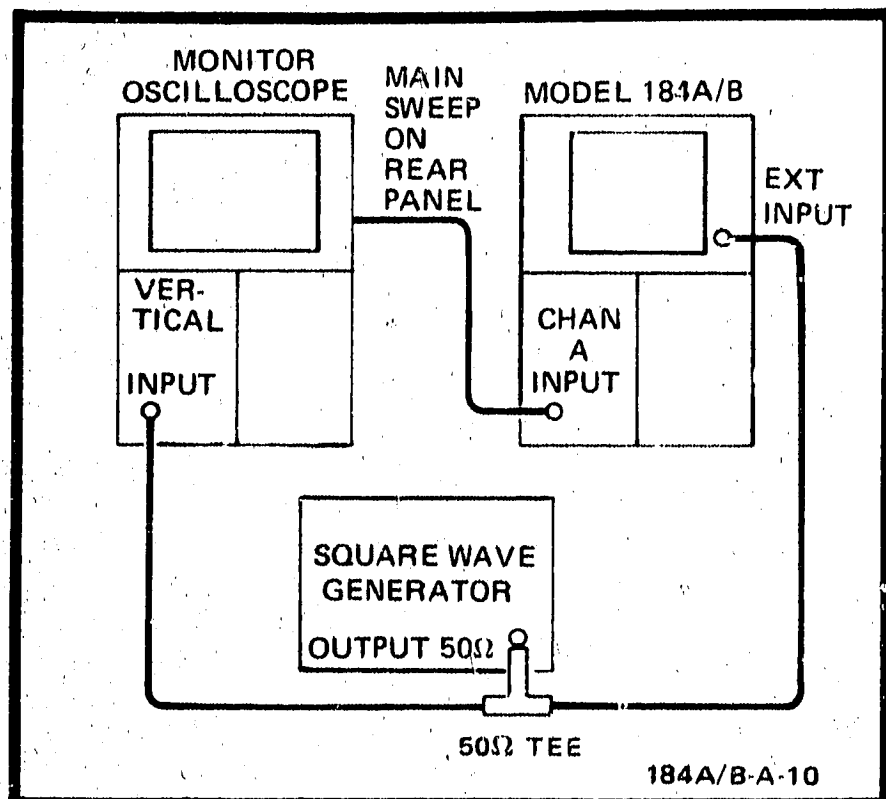

Figure 5-13. Transient Response Adjustment
- b. Connect 1V p-p square wave at 200-kHz repetition rate from square wave generator to EXT INPUT and to monitor oscilloscope vertical input (figure 5-13).